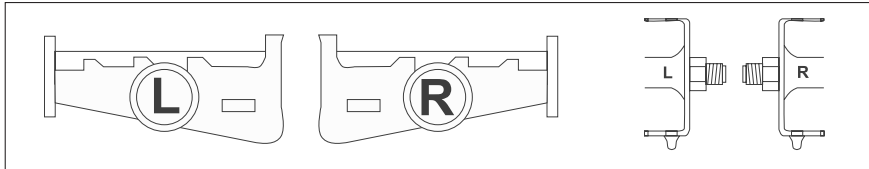

Fig. 12
Step 5: Installing Pedals (Refer to Fig. 12)